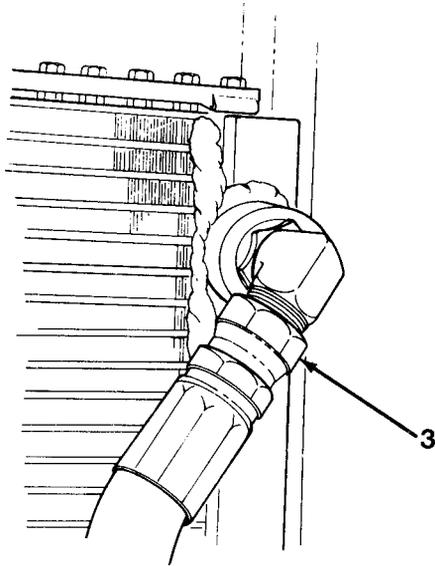
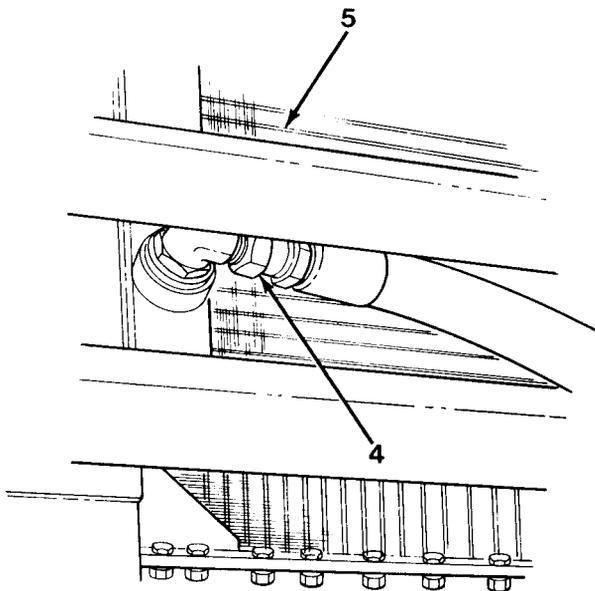

Figure 9-2
Figure 9-3
5. Disconnect and cap hydraulic cooling hose (3, Figure 9-2) and hydraulic cooling hose (4) on front of oil cooler (5, Figure 9-3).